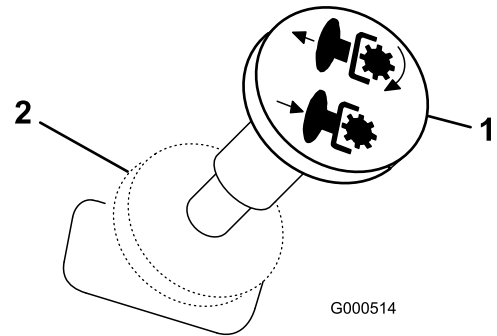

Figure 11
- Pull out on the blade control switch to engage blades (Figure 11).
Push the blade control switch to Off to disengage the blades (Figure 11).